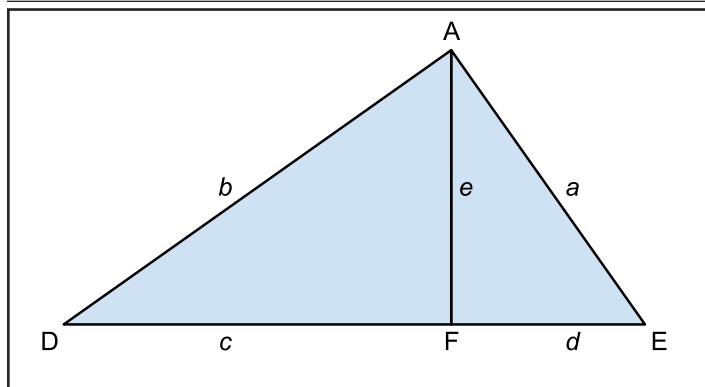

Figure 4: A cross-section of Pyramid from points ADE.
To visualize the slope of the face of the pyramid, take a cross-section of the pyramid that passes through the points A, D, and E. Figure 4 shows this cross-section. Note that the cross-section is another right triangle and that
5. Repeat step 4, measuring in the opposite direction from the center line along the base line. The two vertical lines mark the left and right edges of the template and should meet when the template is wrapped around the tube. The left-hand edge corresponds to the 0° mark in Figure 4, with degrees around the circumference of the tube increasing as you proceed to the right.